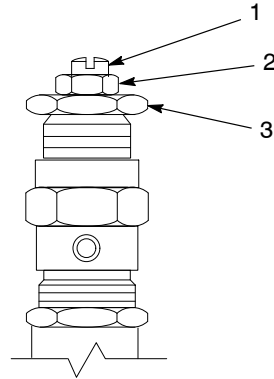

Figure 9-4 Location of loading screw and nuts on a module
2. See Figure 9-4. Use a box-end wrench to loosen the top locking nut (2) on the module.
3. Hold the loading screw (1) in place with a screwdriver and use a box-end wrench to turn the micro-adjuster nut (3) as follows: